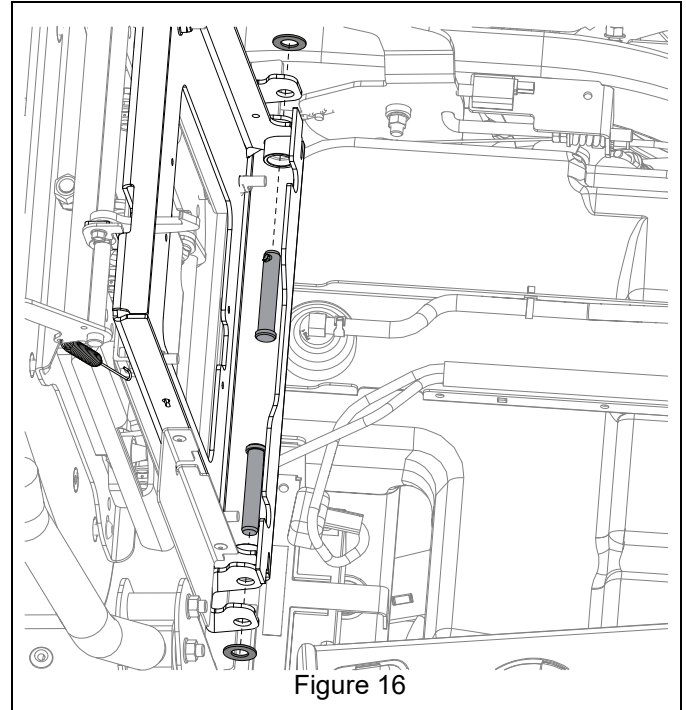

Figure 16
12. Position seat assembly on unit and secure with two slic pins and flat washers removed earlier. See Figure 16.